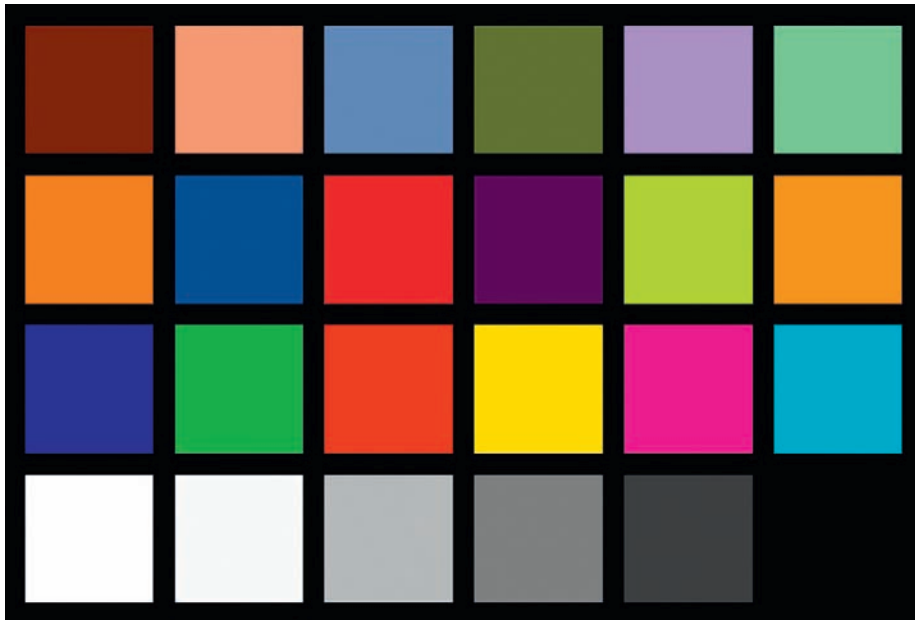

Figure 8.4
8. Try to shoot a Macbeth chart while on location (Figure 8.4). You can use these to set the white balance in your shots for accurate reproduction of real-world colors.